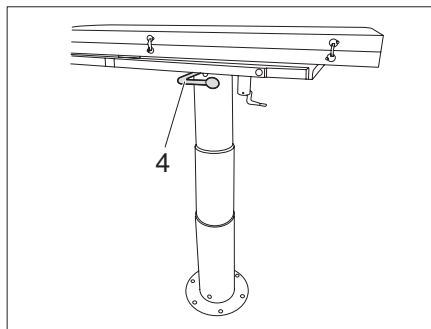

Fig. 81 Folding table, lowerable
- Release the lever (Fig. 81,4) for lowering the table and press the table down.